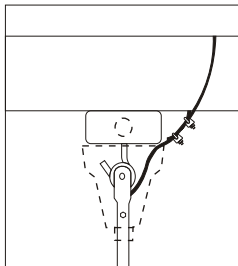

Figure 3
9. This fan is equipped with the required "secondary support" cable. This cable must be affixed to the beam structures and securely clamped in such manner to support the weight of the fan in event The mounting hook or other parts fail. After wrapping cable around A structural member that will support 300 lbs.,. Secure cable with supplied cable clamps as illustrated in Figure 3. (Note: Any Additional materials needed for specific installations may be purchased from your local distributor.)
IMPORTANT CAUTION: The safety cable must not be placed between the rubber roller and hook but as illustrated in Figure 3.
10. When hanging fan on factory supplied "J" hook make sure cable at top of rod is positioned behind "J" hook as illustrated in Figure 3.